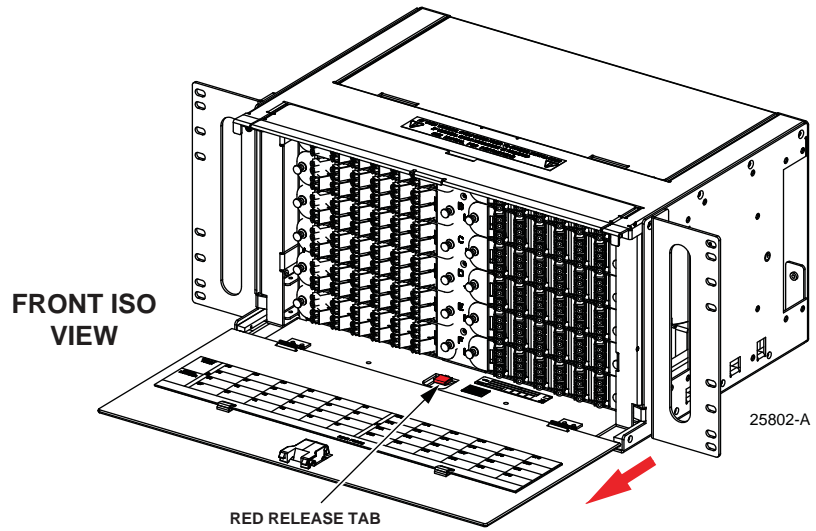

Figure 41. Sliding the Drawer Forward
2. Push down the red release tab and slide out the drawer as shown in Figure 41.